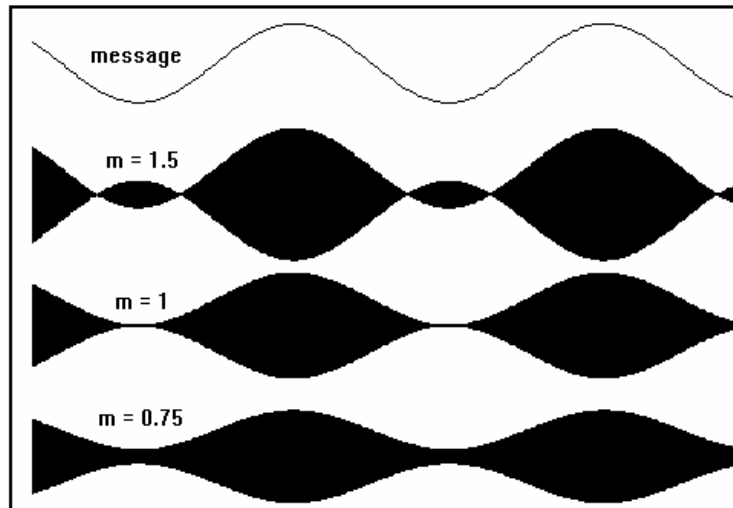

Figure 7: the AM envelope for $m < 1$ and $m > 1$
- Q1** there is no difficulty in relating the formula of eqn. (5) to the waveforms of Figure 7 for values of 'm' less than unity. But the formula is also valid for $m > 1$, provided the magnitudes P and Q are interpreted correctly. By varying 'm', and watching the waveform, can you see how P and Q are defined for $m > 1$?*